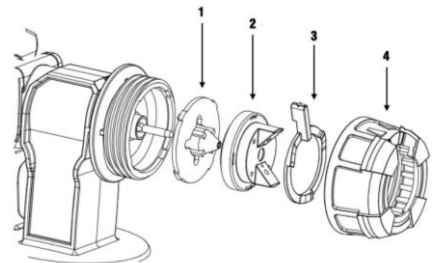

Fig. 20
12. Unscrew the union nut from the spray attachment then remove the jet width adjusting lever. Remove the air cap and the nozzle (Fig. 20).